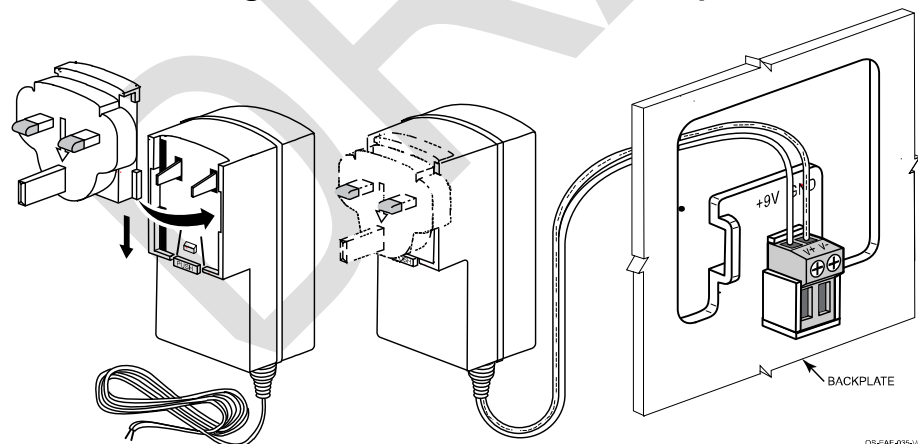

Figure 3 – Wiring the Transformer
9. Connect the power cable to the GND and +9V terminals on the backplate (see figure 3). Refer to Table 1 for wire gauge and length. **Do not apply power at this time.**